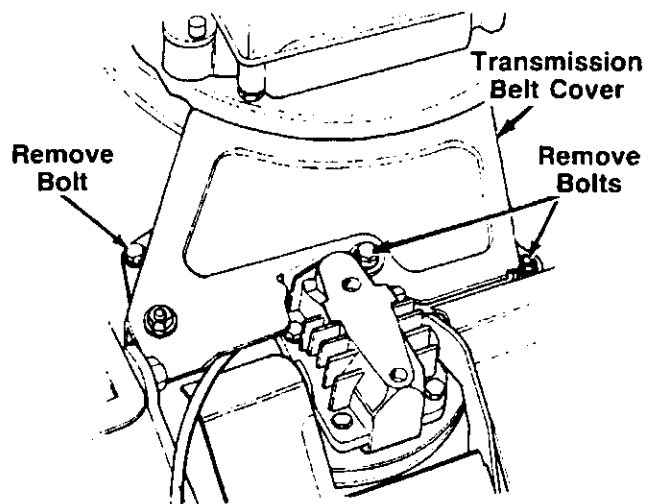

FIGURE 21.
3. Remove the transmission belt cover by removing three bolts. See figure 21.